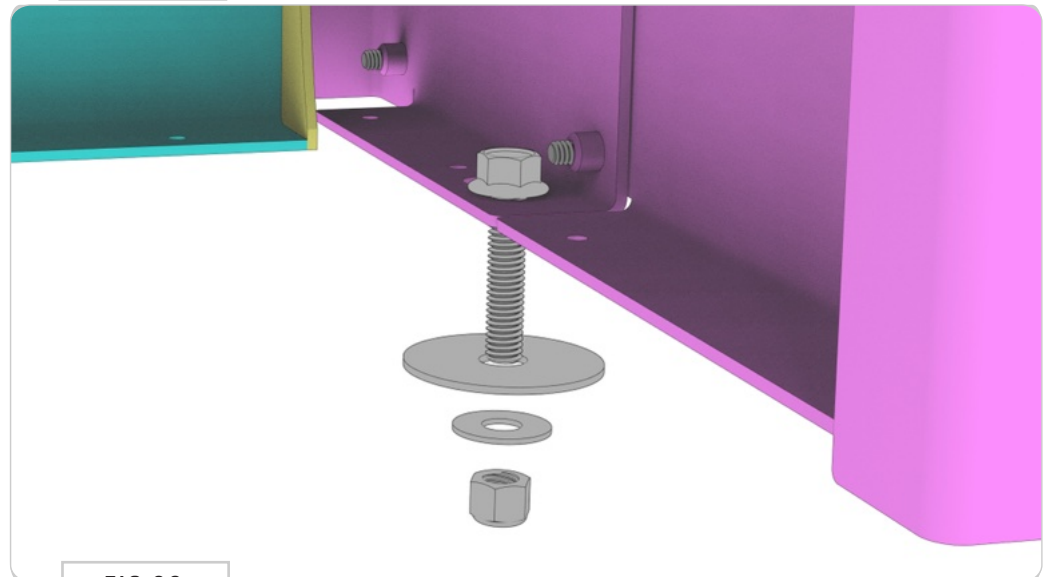

FIG 36
**NOTE -** While not supplied, we recommend using a stack of **3/8-16 Flanged Hex Head Screws, Mounting Washers, 3/8" Oversized Flat Washers and Nylon Locknuts** (FIG 36).